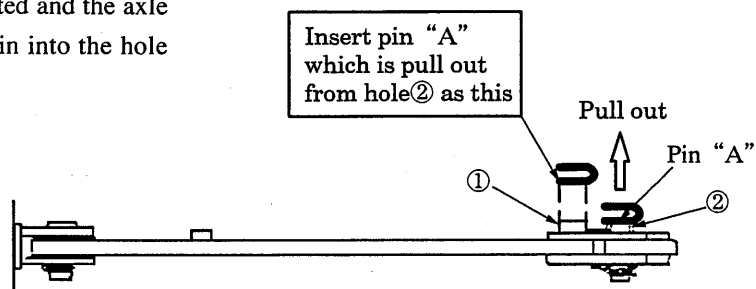

Fig. 11-40
- (2) Remove the connecting pin "A" of the link connecting the crawler to be retracted and the axle from the hole (2), and insert the pin into the hole (1). (Fig. 11-40)